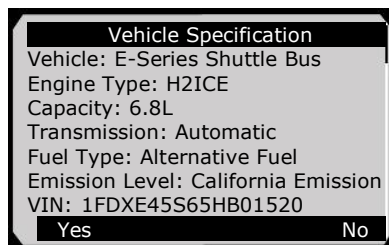

Figure 6.16
- 9) Follow screen instruction to save vehicle information in the **Input Dialog Box** and **Vehicle Specification** sections by selecting **Yes** option, or **No** option to exit without saving. (Figure 6.16)